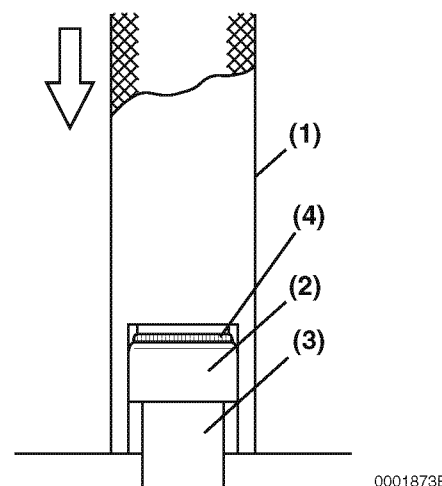

Figure 6-30
*The exhaust valve stem seals are different than the intake valve stem seals and can be identified by either the paint marks on the outside of the seals or by the color of the seal spring (**Figure 6-30, (4)**). Ensure they are installed in the correct locations.*
1. Oil the lip of the valve stem seal (**Figure 6-30, (2)**). Using the valve stem seal installation tool (**Figure 6-30, (1)**), install a new valve stem seal on each of the valve guides (**Figure 6-30, (3)**).